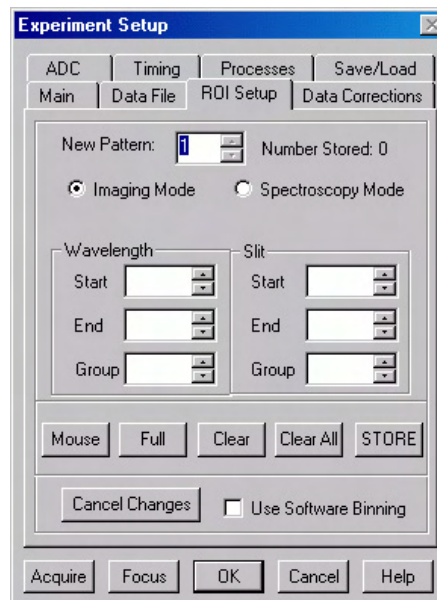

Figure 51. ROI tab page - imaging selected
6. On the **ROI** tab page (Figure 51), select Imaging Mode. WinSpec/32 operated in Imaging Mode always uses the full chip area and ROI considerations do not apply.